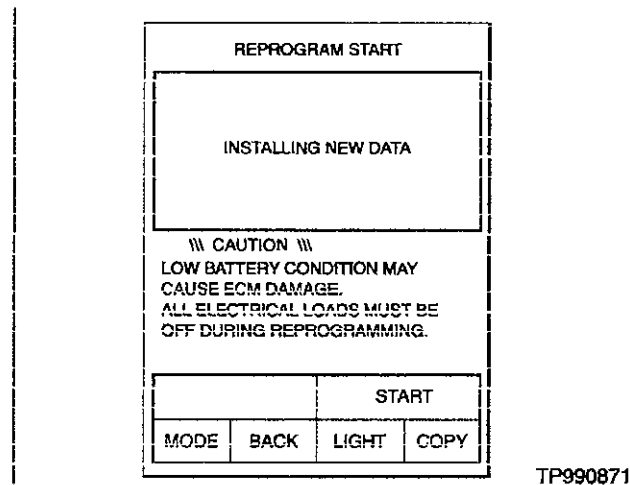

Figure C10
18. The "REPROGRAM START" window should appear (see Figure C10).